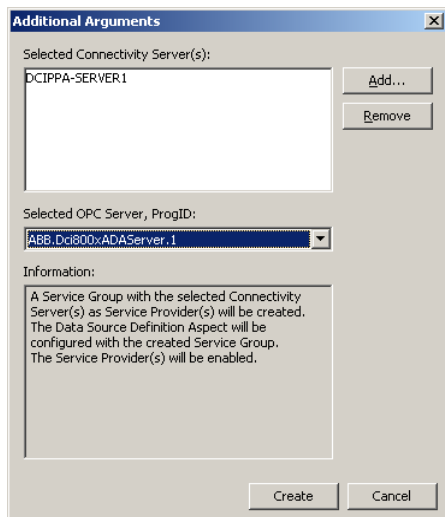

Figure 6. Additional Arguments Dialog
8. The Addition Arguments dialog appears as shown in Figure 6. Select **Add**.